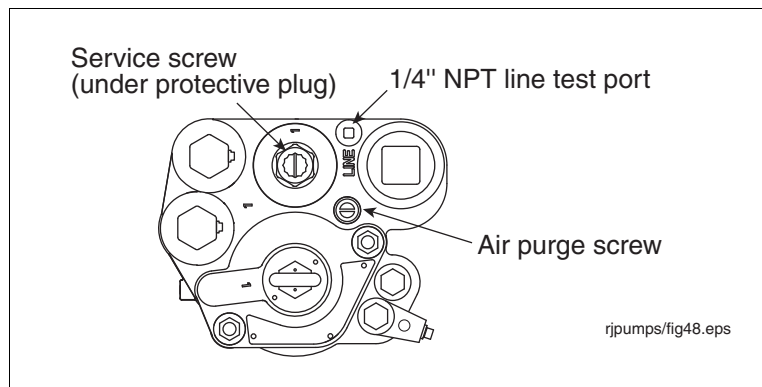

Figure 42. Locating pump line test port
- Pressure may be observed using a gauge attached at the impact valve or to the pump's line test port (see Figure 42).
2. Remove and save the protective plug over the service screw and turn the screw clockwise (see Figure 42). As the screw approaches its bottom position, you will hear the system depressurizing. Continue turning the screw until it can go no further. When the screw is all the way down, back off the screw 4 turns to lift the check valve and let the fuel drain out of the manifold's hydraulic cavities. Continue to turn the screw all the way counterclockwise. When the screw is almost up, the check valve will drop down into position.
3. Remove the line test port plug (see Figure 42) and attach test gauge.
4. Open the air purge screw 2 - 3 turns counterclockwise (see Figure 42).
2. Remove and retain the protective plug over the service screw and turn the screw clockwise (see Figure 42). As the screw approaches its bottom position, you will hear the system depressurizing. Continue turning the screw until it can go no further.